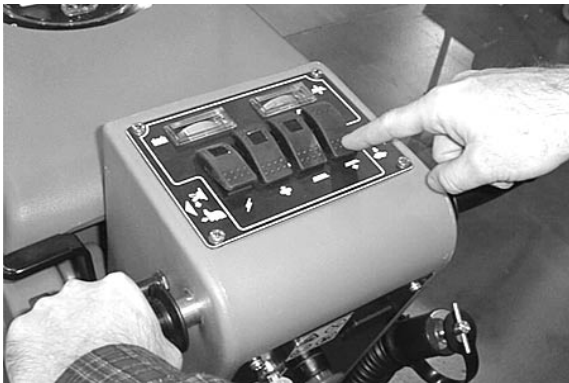

FIG. 13
5. Lower scrub head to floor by pressing bottom half (+) of brush pressure switch (*Figure 13*).